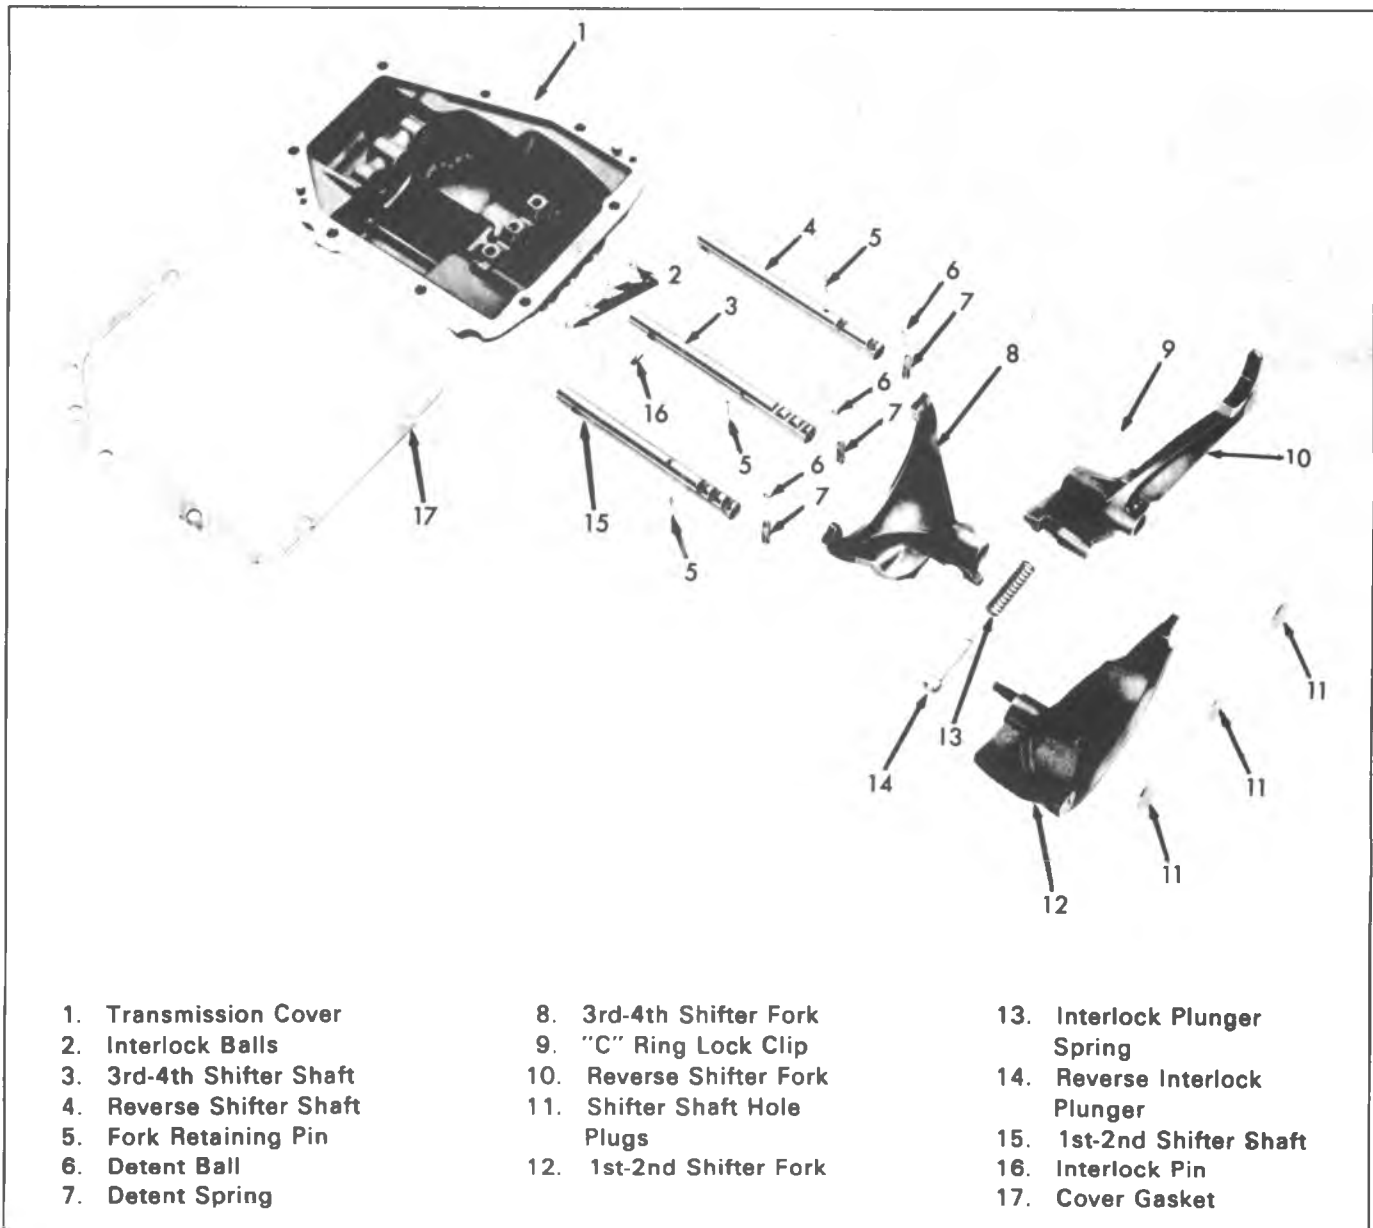

Fig. 7B-6L—Cover Assembly Exploded View
1. Press bearing and new oil slinger onto drive gear shaft using Tool J-22872 (Fig. 7B-11L). Slinger should be located flush with bearing shoulder on drive gear. See Figure 7B-8L for direction of slinger installation.